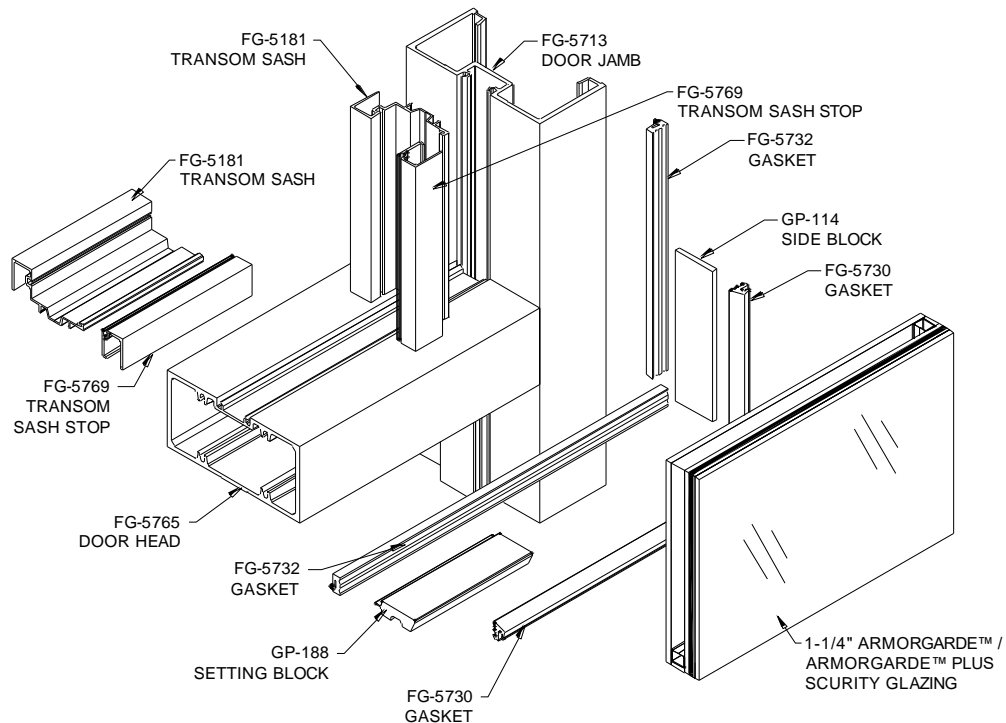
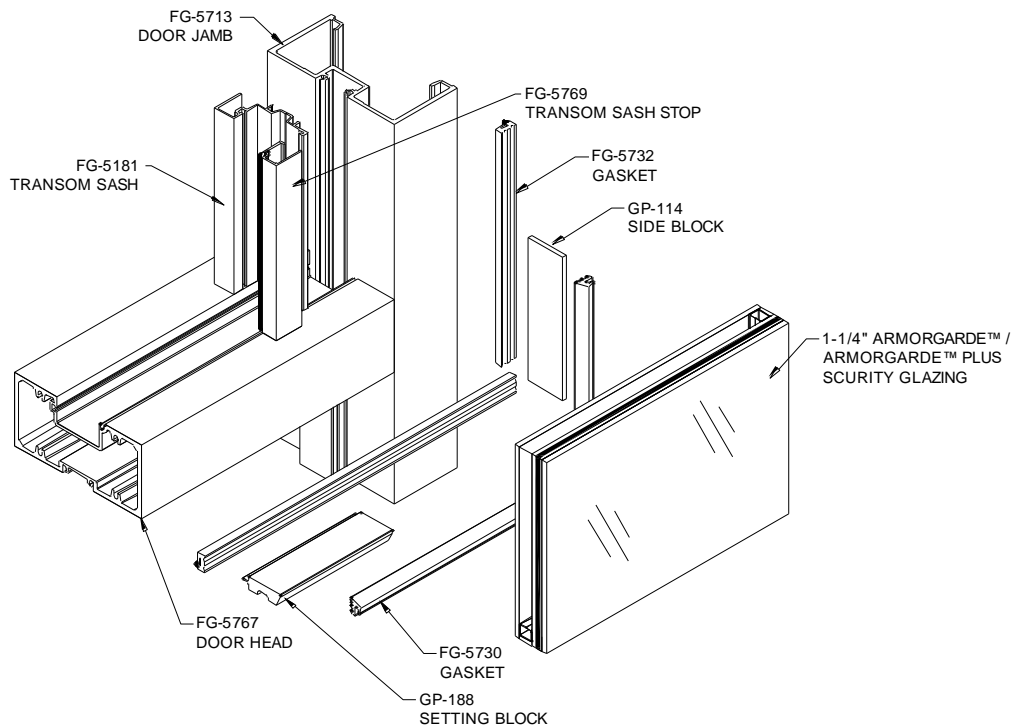

Figure 38: ArmorDefend™ Plus Dry Glaze Assembly at Transom for FG-5765 Door Head
Figure 39: ArmorDefend™ Plus Dry Glaze Assembly at Transom for FG-5767 Door Head
- 13.2.1.7 Install **GP-188** Setting Blocks per shop drawings; depending on the glass size, Setting Blocks will be located at either 1/4 points or 1/8 points. Full Dry Glaze assembly is shown in *Figure 38* and *Figure 39*.